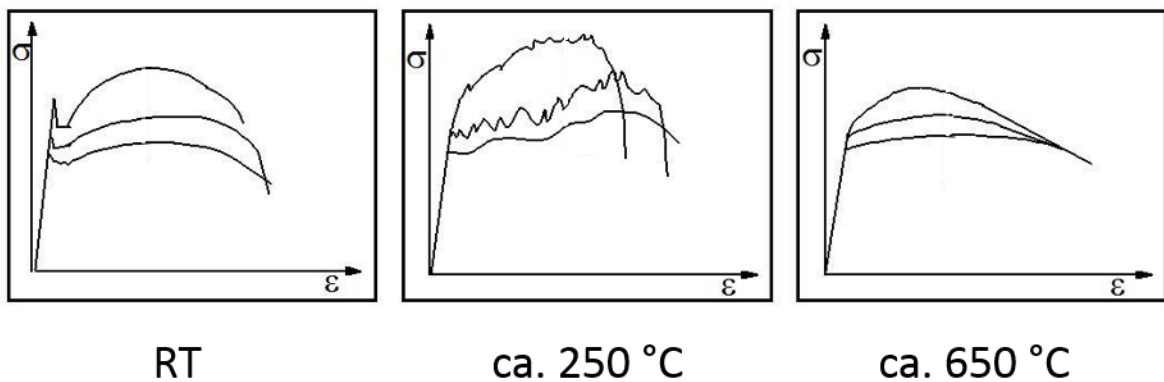

Abbildung 1/Figure1
The flow characteristics strongly depend on temperature and strain rate. **Figure 1** shows stress-strain curves for three characteristic temperature ranges.
- a) For every temperature range in **figure 1** there are three stress-strain curves given. Assign the strain rates ($\dot{\epsilon}_1 > \dot{\epsilon}_2 > \dot{\epsilon}_3$) to the responding stress-strain curves. (3 Points)